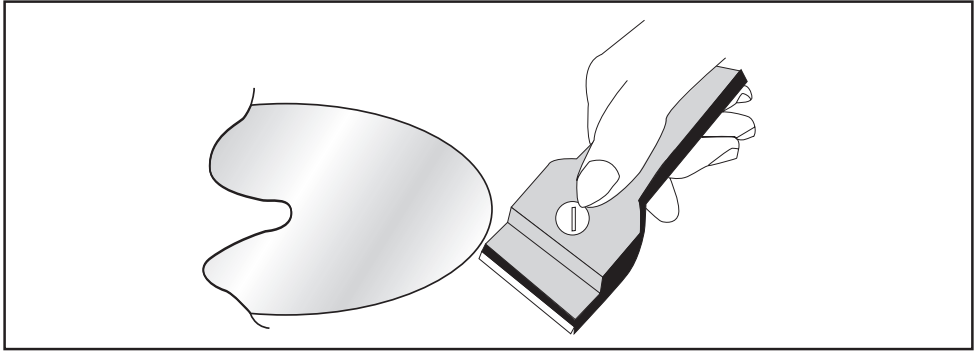

Fig.4
• **Manutenzione (Fig.4):**
Stromanschlüsse (Abb.4):
• Wartung (Abb.4):